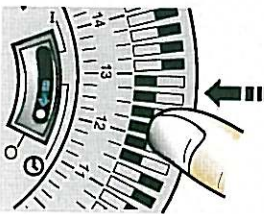
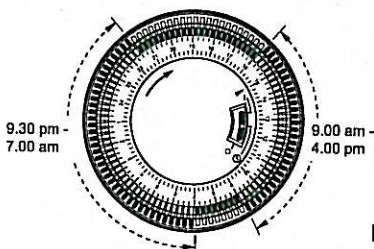
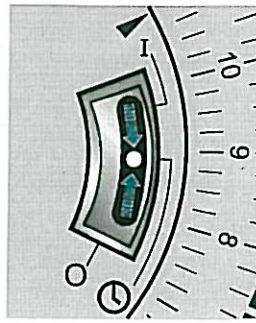

Fig. 8
Fig. 9
Fig. 10
1. Using your finger tip or the tip of a pencil, push in as many segments as necessary around the dial, according to the times you don't require heat - see Fig. 8. Each segment pushed in switches the heater OFF for that part of the hour. All other segments will be ON. For example, Fig. 9 shows the timer set to switch the heater ON between 9.00am and 4.00pm and between 9.30pm and 7.00am.
Check that the clock shows the correct time of day. Set the I - 0 - O slide switch to 0 (see Fig. 10) - the heater will switch ON and OFF according to the timer settings (see Fig. 9).